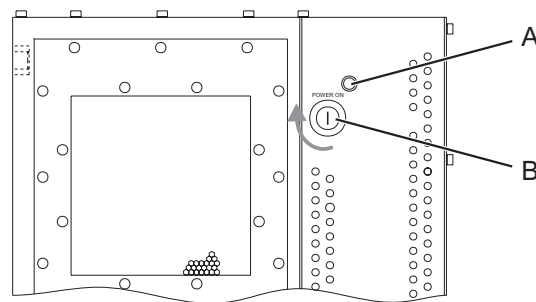

Figure 29: Enabling power circuits
1. Insert the key into the key switch and turn clockwise from the “0” to the “I” setting (see Figure 29, B).